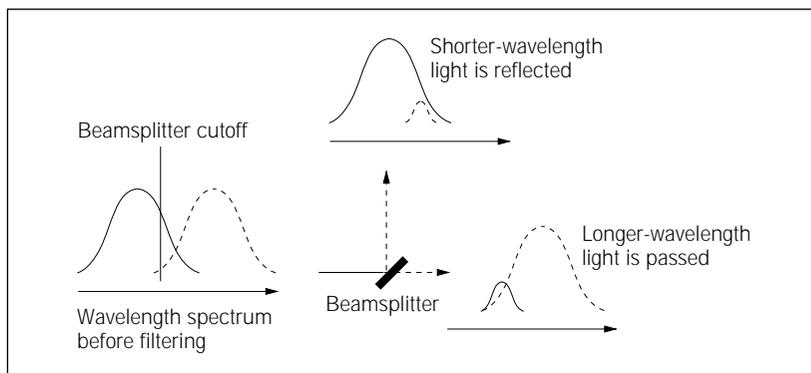

Figure A-3. Effect of a dichroic beamsplitter on light encountering the beamsplitter.
- Light with wavelengths longer than the cutoff passes through the beamsplitter (figure A-3).
- Light with wavelengths shorter than the cutoff is reflected by the beamsplitter (figure A-3).